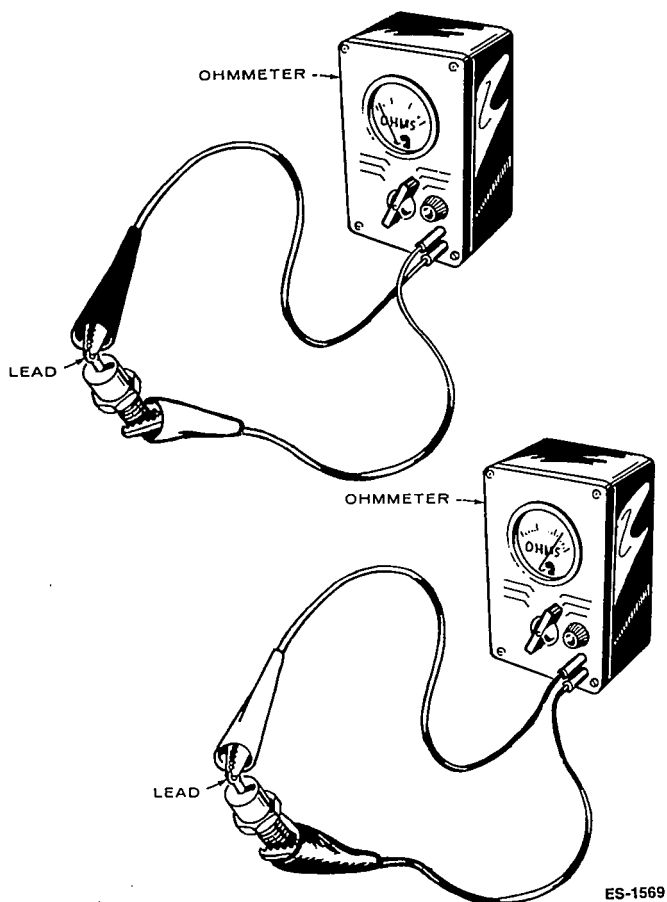

FIGURE 4-3. TESTING DIODES
- A. Use an accurate ohmmeter to check the resistance of the diode. Connect one lead to the flag of the diode and the other lead to the stud. See Figure 4-3. Observe reading.